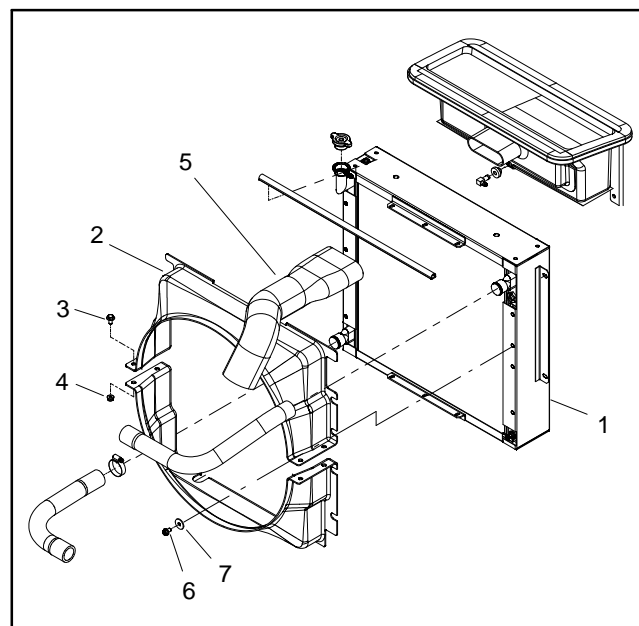

Figure 83
4. Remove air cleaner hose and upper radiator shroud to allow access to hydraulic fan motor (Fig. 83).
5. Remove four (4) cap screws and washers used to secure fan (item 13) to fan hub. Remove fan.
C. Remove six (6) cap screws and flange nuts that secure fan motor bracket to radiator.
7. Remove hex nut (item 9) and washer (item 8) that secure fan hub to fan motor. Use suitable puller to carefully remove fan hub from fan motor shaft. Locate and retrieve woodruff key.
8. Remove two (2) cap screws (item 20), flat washers (item 21) and lock nuts (item 14) that secure fan motor to fan motor bracket. Remove fan motor from bracket.
2. Position fan motor to fan motor bracket and secure with cap screws (item 20), flat washers (item 21) and lock nuts (item 14).
4. Position fan hub onto motor shaft and secure with washer (item 8) and hex nut (item 9). Torque nut from **27 to 33 ft-lb (37 to 44 N-m)**.
5. Carefully position fan motor and bracket assembly to radiator and secure with six (6) cap screws and flange nuts.
7. Position fan to fan hub and secure with four (4) cap screws and washers.
8. Install upper radiator shroud and air cleaner hose (Fig. 83). Make sure that clearance between shroud and cooling fan is at least 0.180" (4.6 mm) at all points.